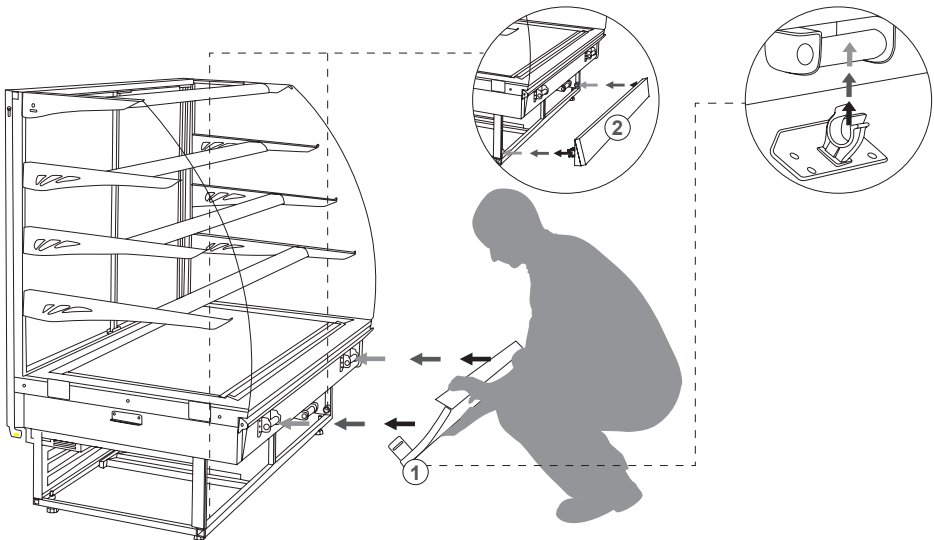
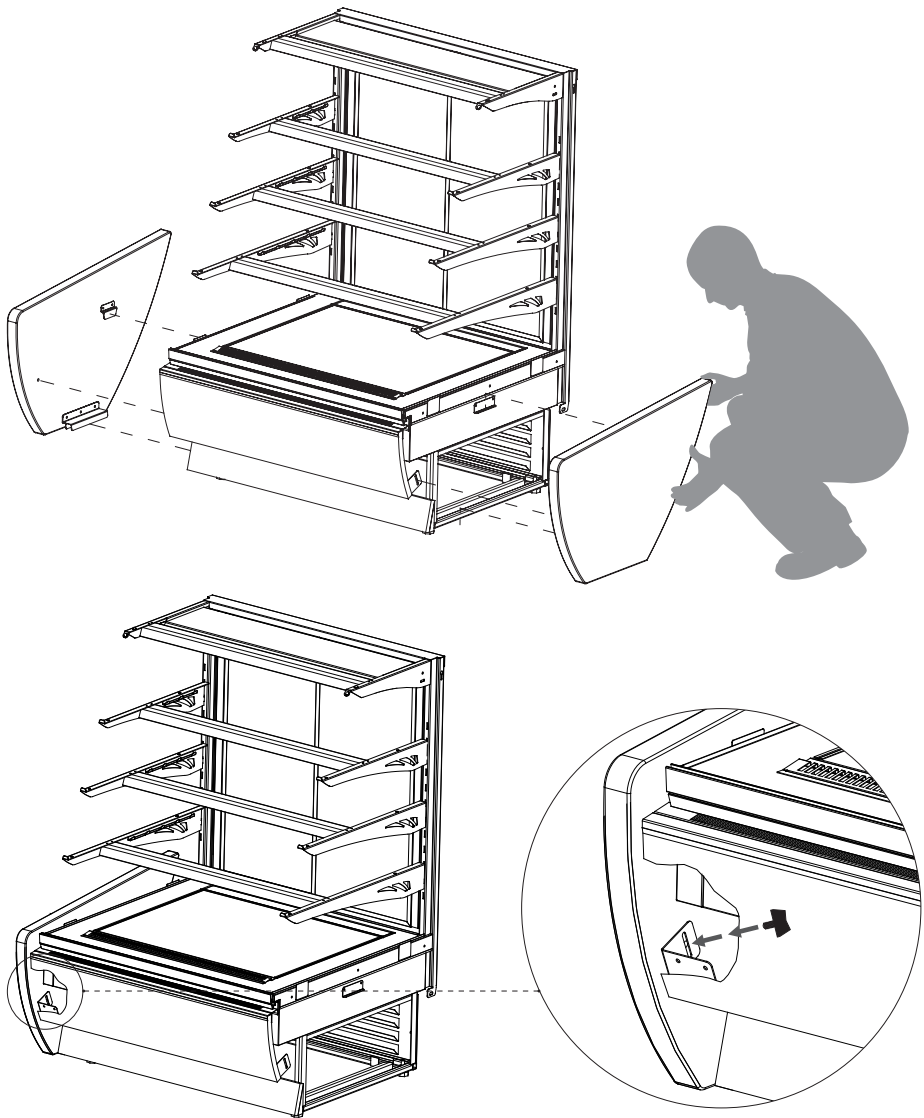
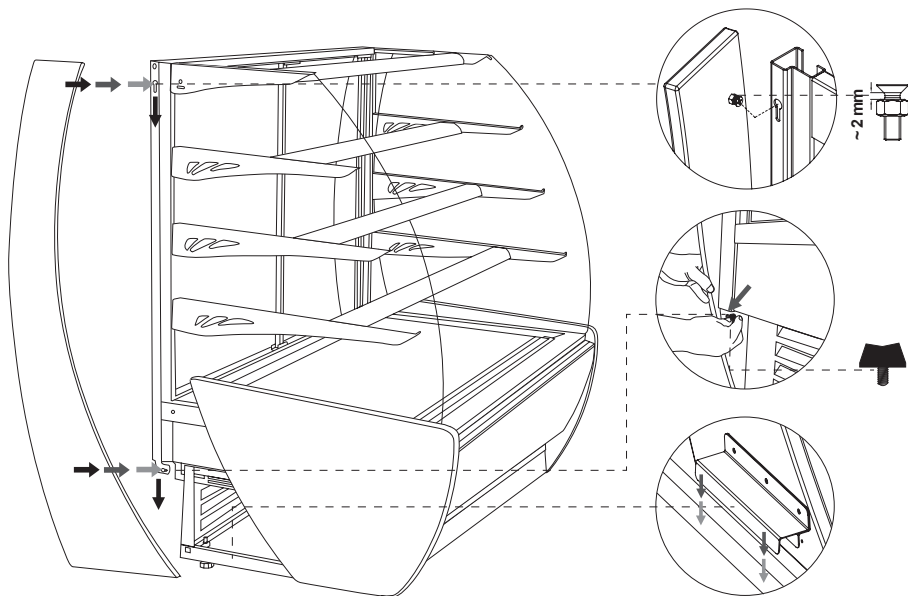

Fig.3 Mounting the front and the plinth block
Fig.4 Mounting the wooden side
Fig.5 Mounting the side wing
- 1 – Mount the wooden parts: front, plinth block, sides and wings according to Fig.3 (p.18), Fig.4 (p.19) and Fig.5 (p.20)